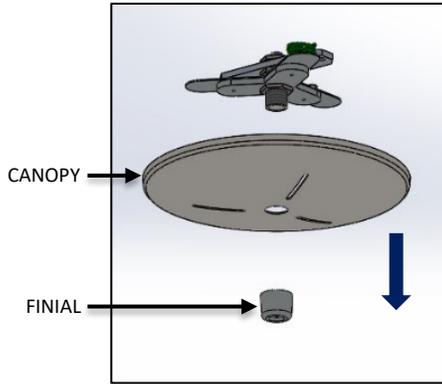
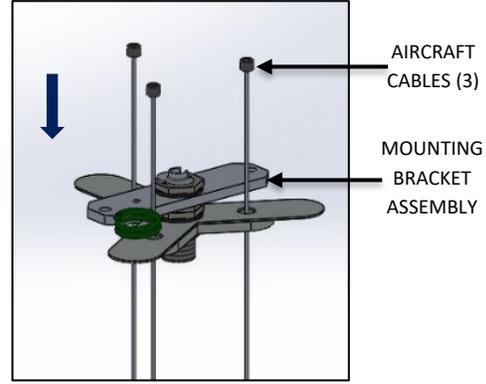

FIG. 8 – CANOPY DIS-ASSEMBLY
FIG. 9 – AIRCRAFT CABLE INSTALLATION
1. Loosen the CANOPY FINIAL and remove CANOPY as shown in FIG. 8. Be careful not to scratch finish and Feed the AIRCRAFT CABLES (3) through the holes of MOUNTING BRACKET ASSEMBLY as shown in FIG. 9.